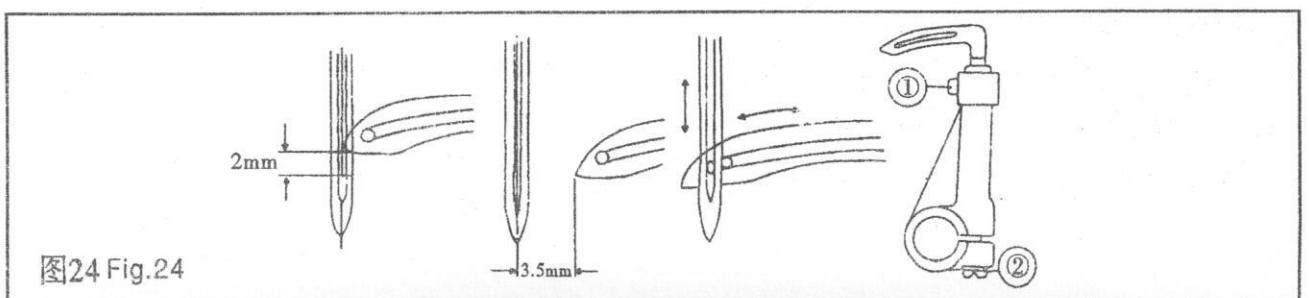

图24 Fig.24
十九. 弯针的勾取量 (图24) Thread-guiding amount of the looper (refer to Fig.24)
1. 弯针的针尖到达机针的中心位置时，弯针针尖离机针孔上端的距离标准值是2mm，此时针杆下刻线和针杆下衬套下端面对齐。（如图24）
3. 机针孔和弯针孔的相对关系如（图24）所示。（左右弯针可以分别调整）
- 1) The standard value of the vertical distance of the point of the looper away from the upper end of the eye of the needle is 2mm, then the graduation mark on the lower part of the needle bar shall be in line with the lower end of the needle bar bushing, lower. (Refer to Fig.24)
- 3) The relation between the eye of the needle and the eye of the looper is indicated in Fig. 24. (Note that the left looper and the right one can be separately adjusted.)